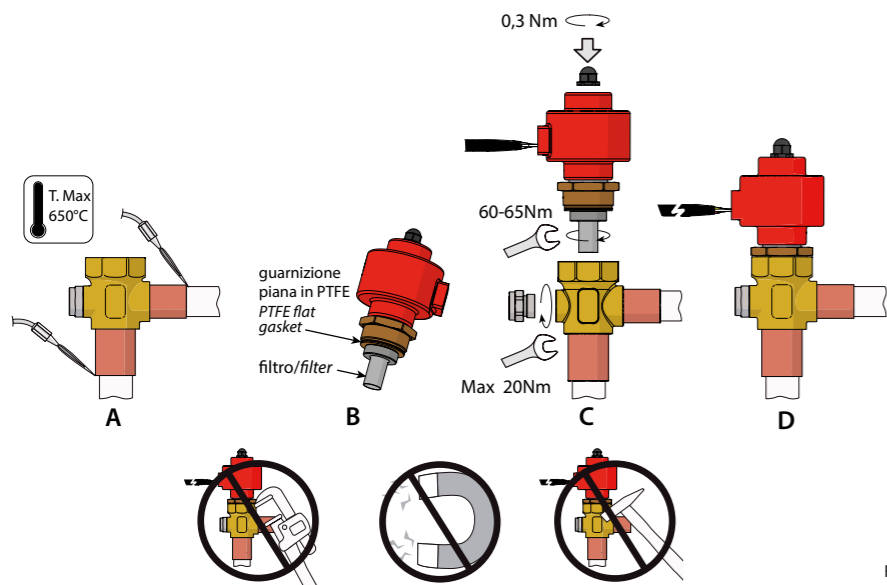

Fig. 2
Seguire la successione indicata in Fig. 2 procedendo in questo modo:
2. Procedere alla saldatura orientando la fiamma verso l'estremità dei raccordi come da fig. 2 A (per una migliore brasatura senza alterare la tenuta della zona di saldatura tra corpo e raccordi utilizzare lega con temperatura di fusione inferiore a 650 °C o con tenore di argento superiore del 25 %).
The Unipolar E³V-S valves must be joined to the circuit by braze welding the copper fittings to the condenser outlet (IN) and evaporator inlet (OUT) pipes. Proceed as indicated in Fig. 2:
2. Weld by aiming the flame at the ends of the fittings as shown in Fig. 2-A (for better braze welding without affecting the seal of the welded area between the body and the fittings, use alloys with a fusion temperature less than 650 °C or with a silver content above 25%);
3. Make sure that the PTFE flat gasket is present in its seat (Fig. 2-B). Otherwise, take a flat gasket from the packaging and place it in the cartridge from the side of the brass bushing.
4. Make sure that the metal mesh filter is inserted on the brass bushing (Fig.2-B). Otherwise, position it as shown in the figure and make sure it's properly in place.